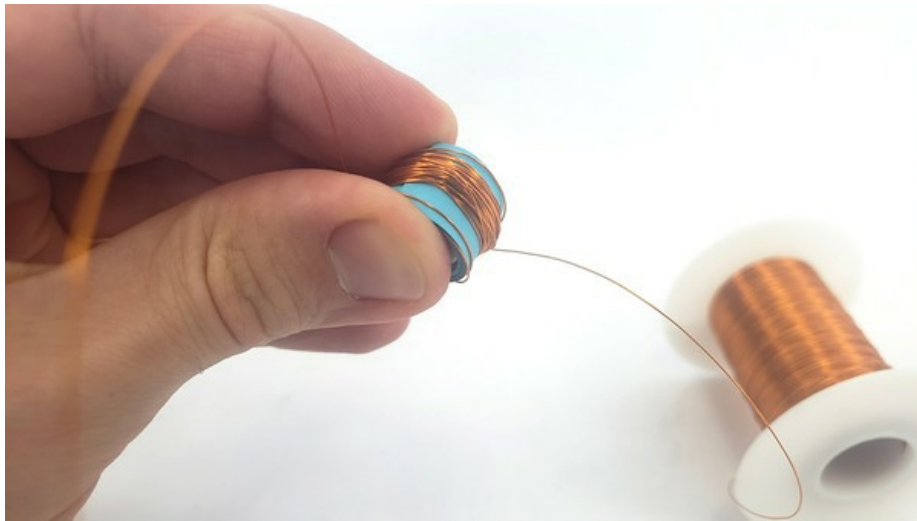

Figure 7. Coil created by wrapping wire tightly around the paper tube.
6) Working away from this extra length of wire, carefully, and tightly wrap 50 turns of wire from the spool around the paper tube to create a coil (Figure 7). The measured foot of wire should be left free at the beginning of the coil.